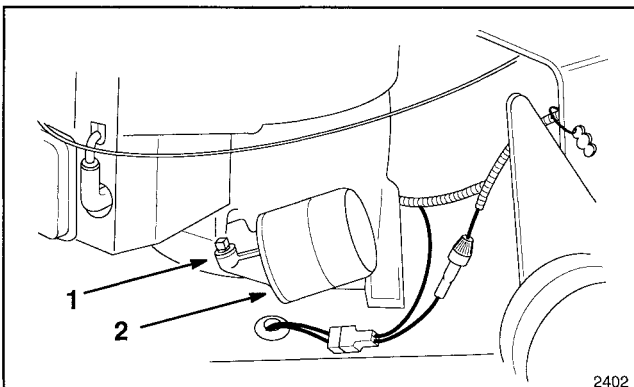

Figure 16
b. Remove the oil filter drain plug located at the base of the oil filter adapter (Fig. 16). Drain oil into pan.